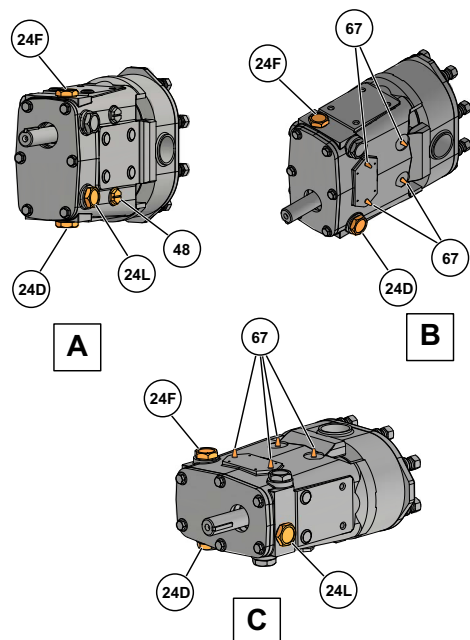

Figure 27 - Lubrication Points
Excess grease will accumulate in the gear case and must be removed through the cleanout hole covered with a plastic plug (Figure 27, item 48).